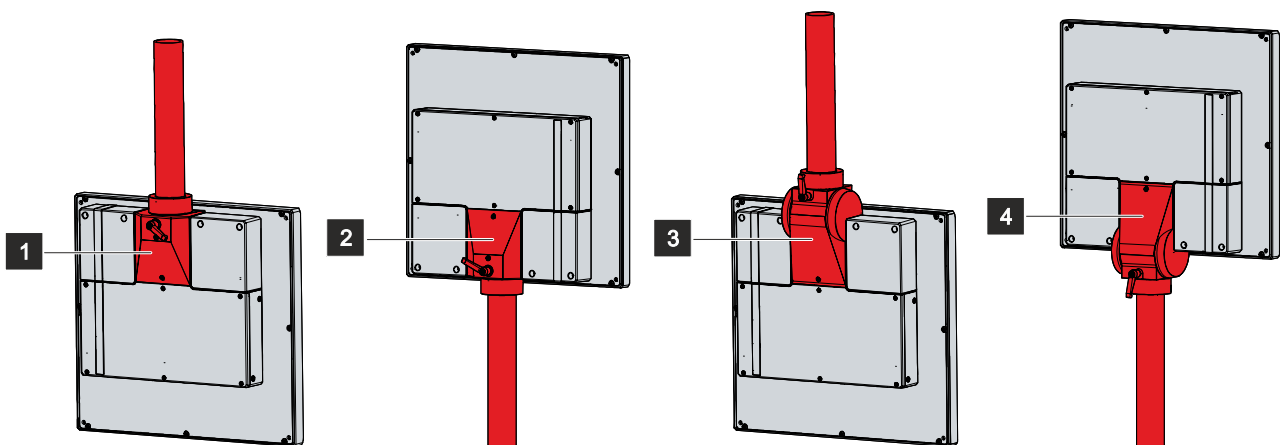

Fig. 6: Mounting arm adapter
Figure 6 shows the standard mounting arm adapter (1) and the three available adapter options (2-4). All adapters have a clamping lever to prevent rotation and can be swiveled by $\pm 165^\circ$. The adapters adapt the panel PC with a 48 mm circular tube. The permissible tolerance is -0.1 to $+0.8$ mm.